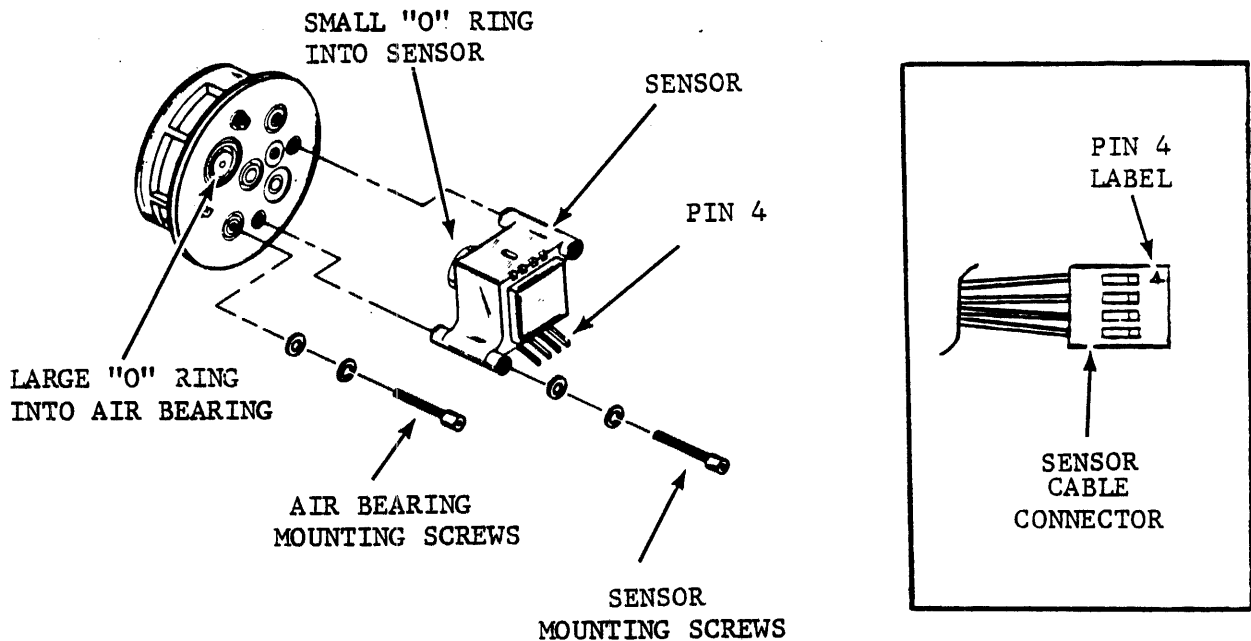

Figure 6-15. AIR BEARING SENSORS
3. Reattach P1 connector to the transducer pins. Refer to Figure 6-15 for pin orientation.